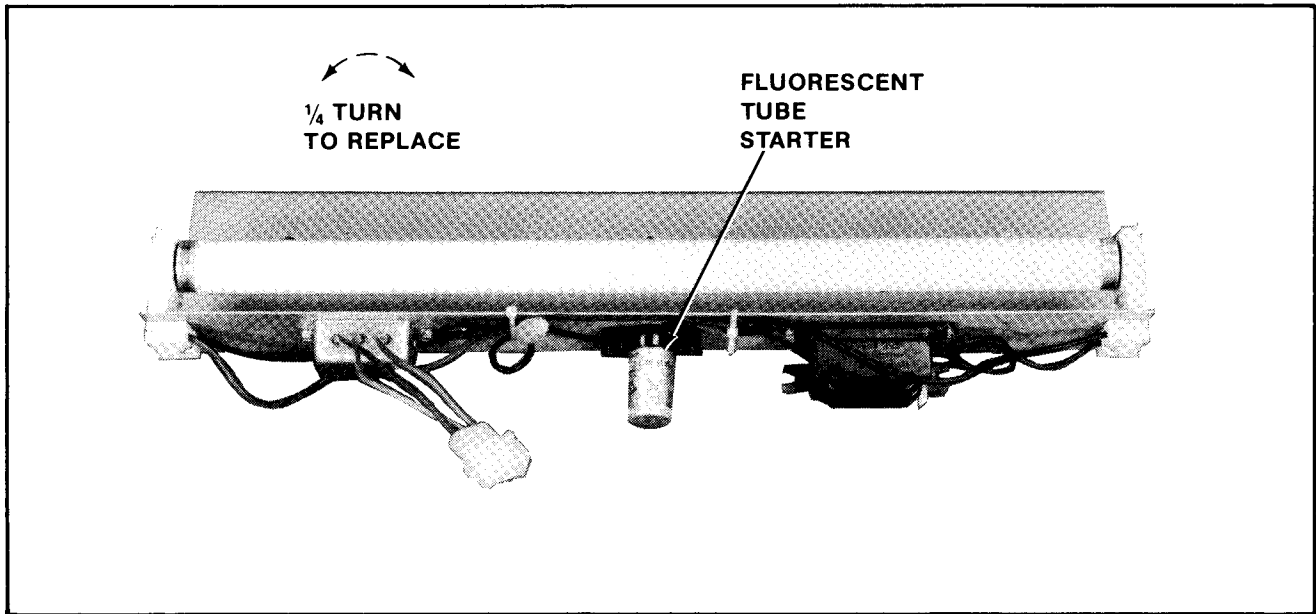

Figure 4-16 Replacing Fluorescent Tube Starter — Upright
**WARNING: If you drop a fluorescent tube and it breaks, IT WILL IMplode! Shattered glass can fly six (6) feet or more from the implosion. Use care when replacing any fluorescent tube.**
- Replacing the fluorescent tube starter. See Figure 4-16.